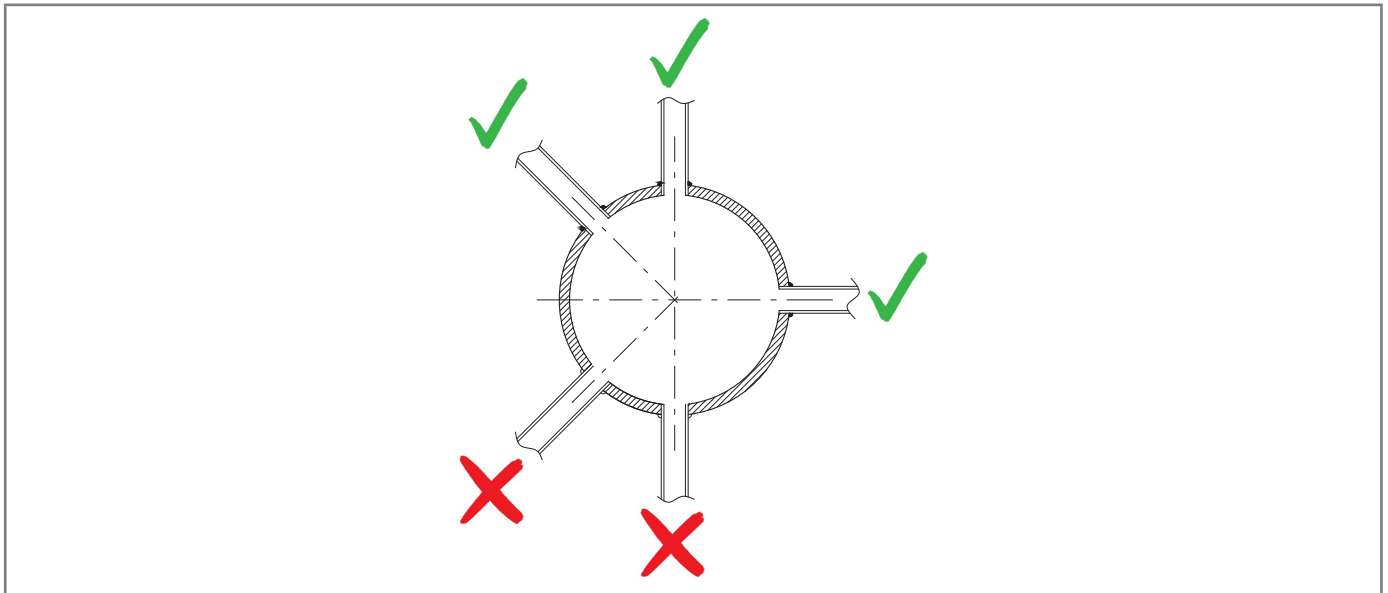

Fig. 6.9. Welded pipe connections
- the pipe connections are always welded on the upper part or at maximum 90 degrees on the axis of the pipe (refer to Fig. 6.9);